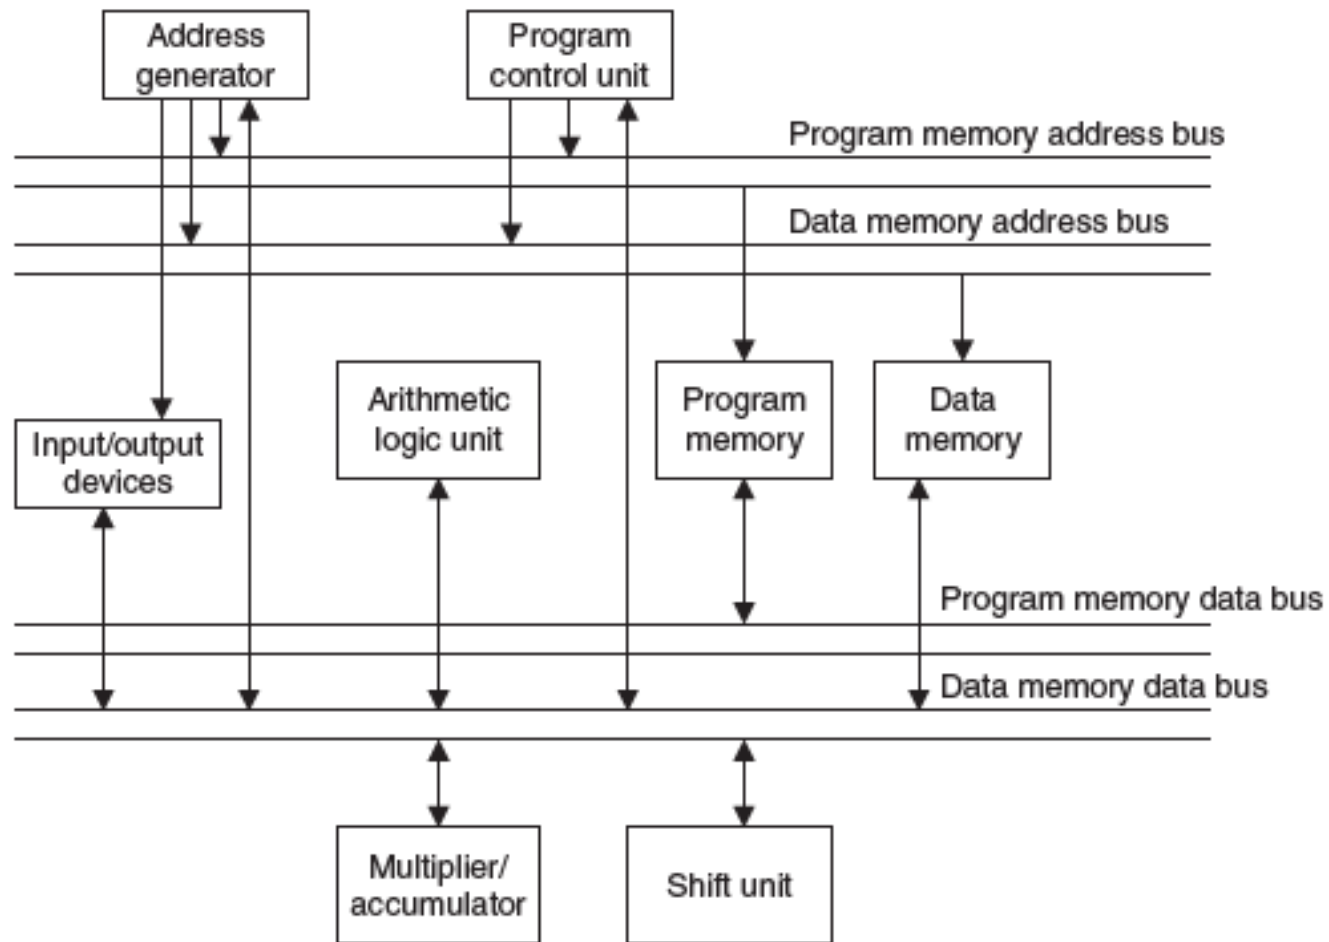

FIGURE 9.2 Digital signal processors based on the Harvard architecture.
- This computer stored its instructions on punched tape and data using relay latches. Figure 9.2 shows today's Harvard architecture.